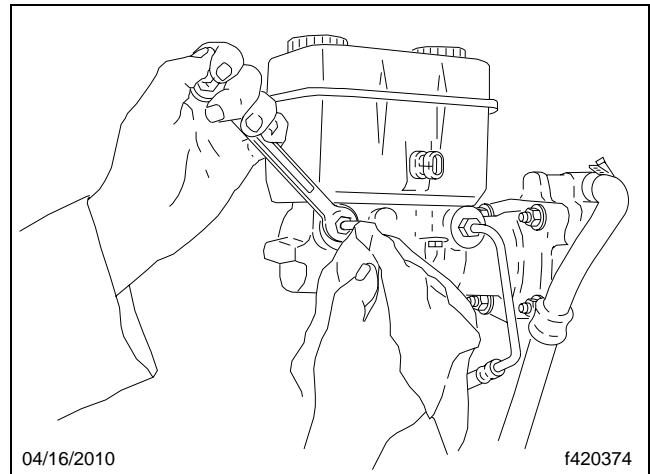

Fig. 16, Front Outlet Port
- 2.7 Using a wrench (and a rag to absorb leaking brake fluid), loosen the fitting at the front outlet port on the master cylinder. See **Fig. 16**. Loosen the fitting about one turn.
- 3.1 Put a wrench on the bleeder fitting at the caliper, then attach a length of clear tubing to the bleeder fitting. Make sure the tube fits snugly. Submerge the tubing in a container of clean brake fluid. See **Fig. 16**.